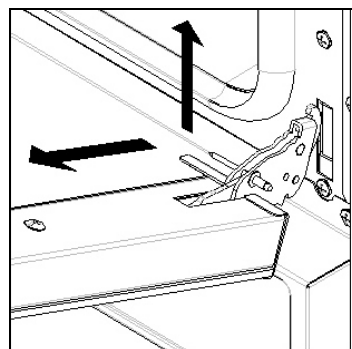

Fig. 8
- lift the door gently and withdraw it (Fig. 8);